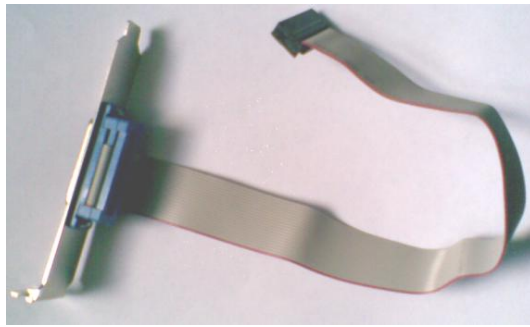
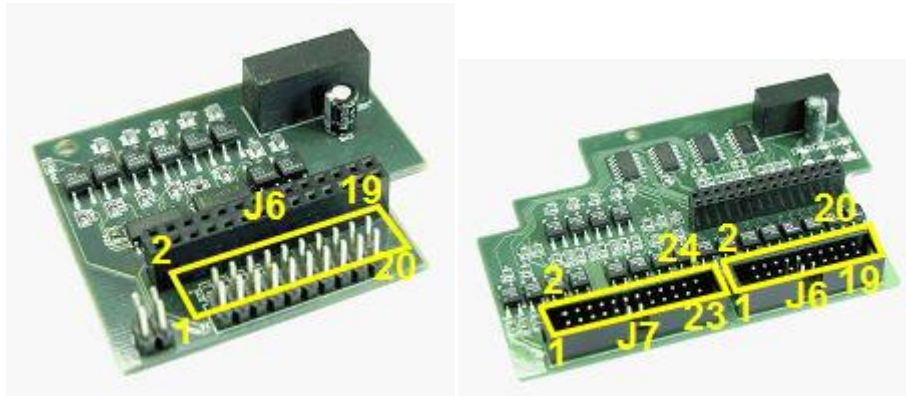

Figure 2.4-5 DI/DO interface cable
Figure 2.4-6 Connectors on the DI/DO card for the interface cable connection (is exemplified in 4/4 and 16/4 DI/DO cards)
4. Connect the interface cable included in the distribution kit of the DI/DO card, to the DI/DO card with the help of special connector (Figure 2.4-5, Figure 2.4-6, Figure 2.4-7, Figure 2.4-8)
Note. For interface cable connection the 4/4 DI/DO card has J6 connector, 16/4 DI/DO card has J6 and J7 connectors (Figure 2.4-6, Figure 2.4-7).
Attention! *The first wire of the interface cable (marked red) should match the first pin of corresponding connector of the DI/DO card (Figure 2.4-6, Figure 2.4-7, Figure 2.4-8).*